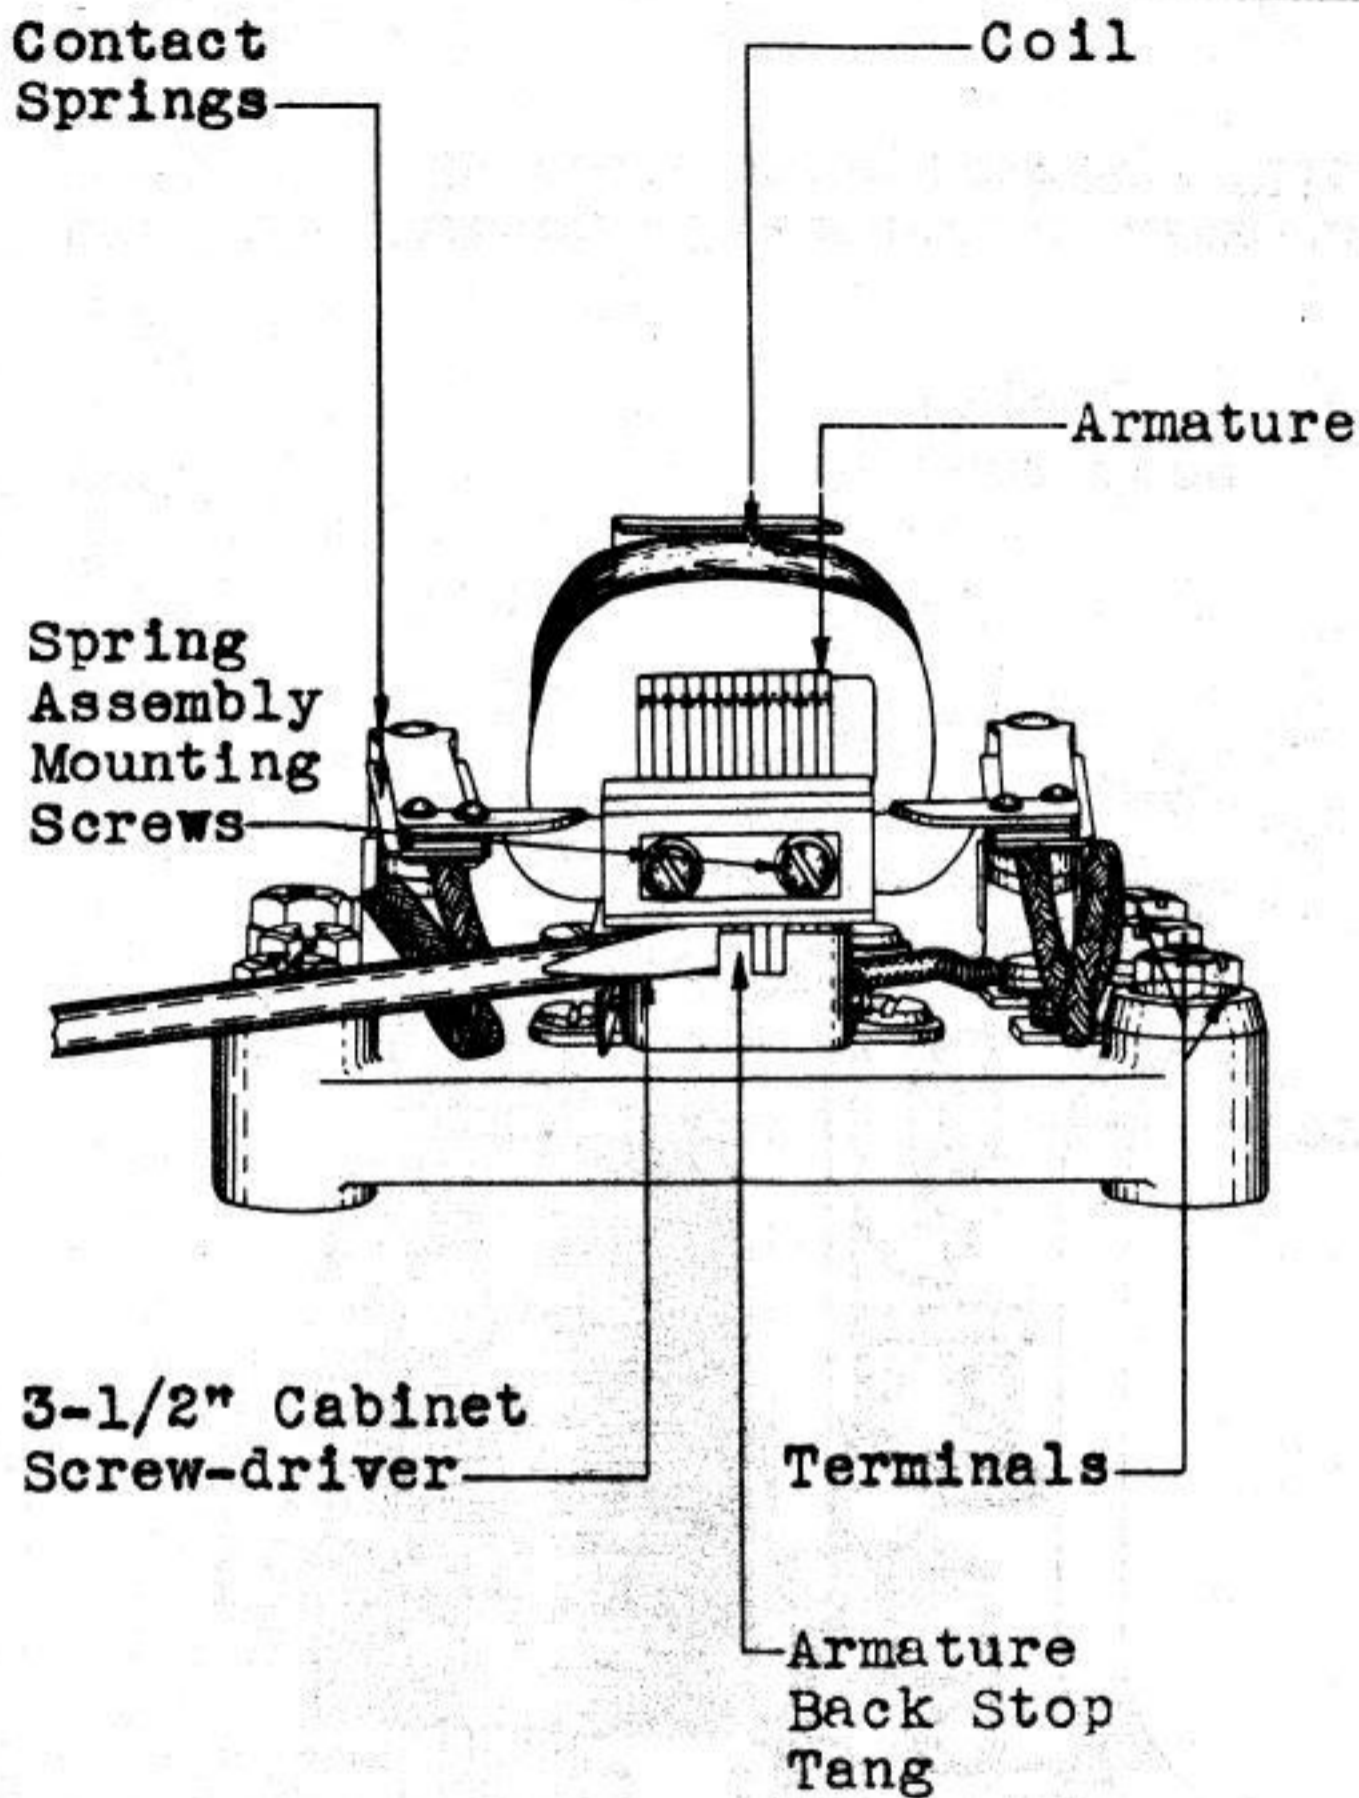

Fig. 6 - Method of Adjusting Armature Back Stop Tang, Using 3-1/2" Cabinet Screw-driver
(13) On relays having the type of armature back stop shown in Fig. 6 insert the blade of the 3-1/2" cabinet screw-driver between the armature back stop tang and the back stop frame. Using the screw-driver as a lever, bend the back stop tang toward the armature by pressing the screw-driver against the tang. If the armature air-gap is too small, correct it by inserting the screw-driver between the back stop tang and the frame as shown in Fig. 6. Using the screw-driver as a lever, pry the tang away from the